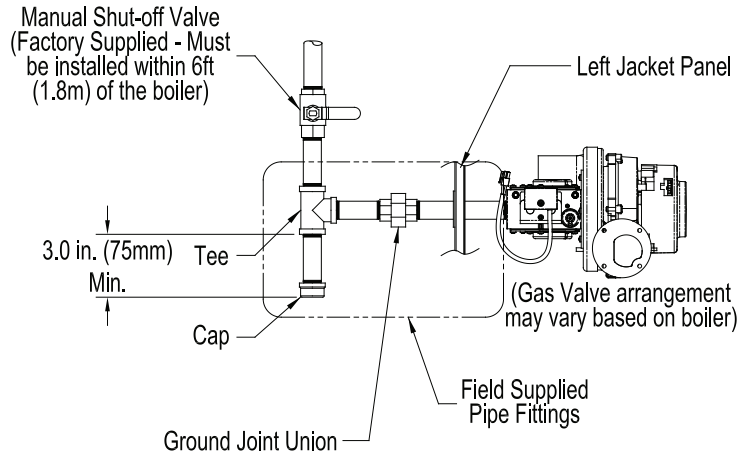

Figure 35: Recommended Gas Piping
- Install sediment trap, ground-joint union and manual shut-off valve upstream of mounted factory supplied manual shut-off valve. See Figure 35 “Recommended Gas Piping”.
2. **Individual module (boiler) recommended gas piping detail** - see Figure 35.